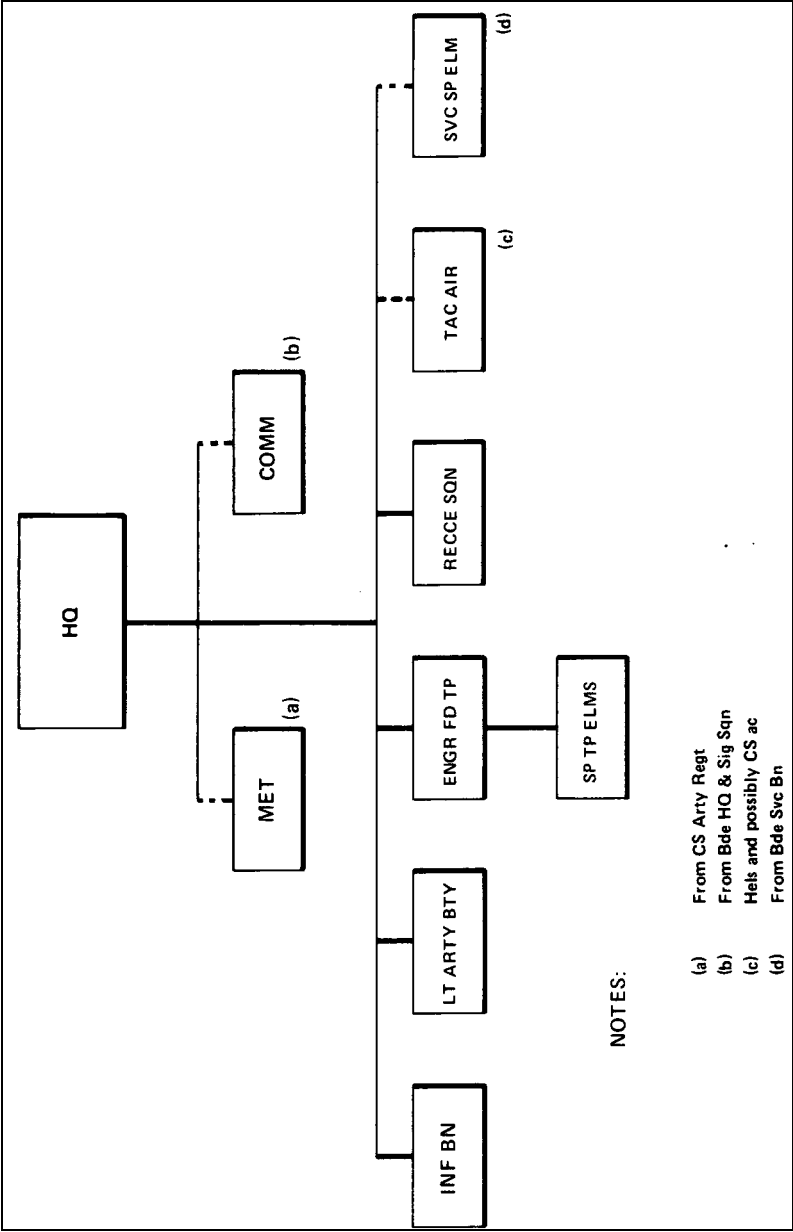

Figure 1-4 Battle Group for Arctic Operations
34. A possible composition of a battle group task force for an arctic operation is shown in Figure 1-4. The amount of airlift available will be the major factor, but the force must deploy with the maximum number of high mobility vehicles. The battalion headquarters will have to be augmented for sustained operations, in any case meteorological and communication facilities will have to be added.